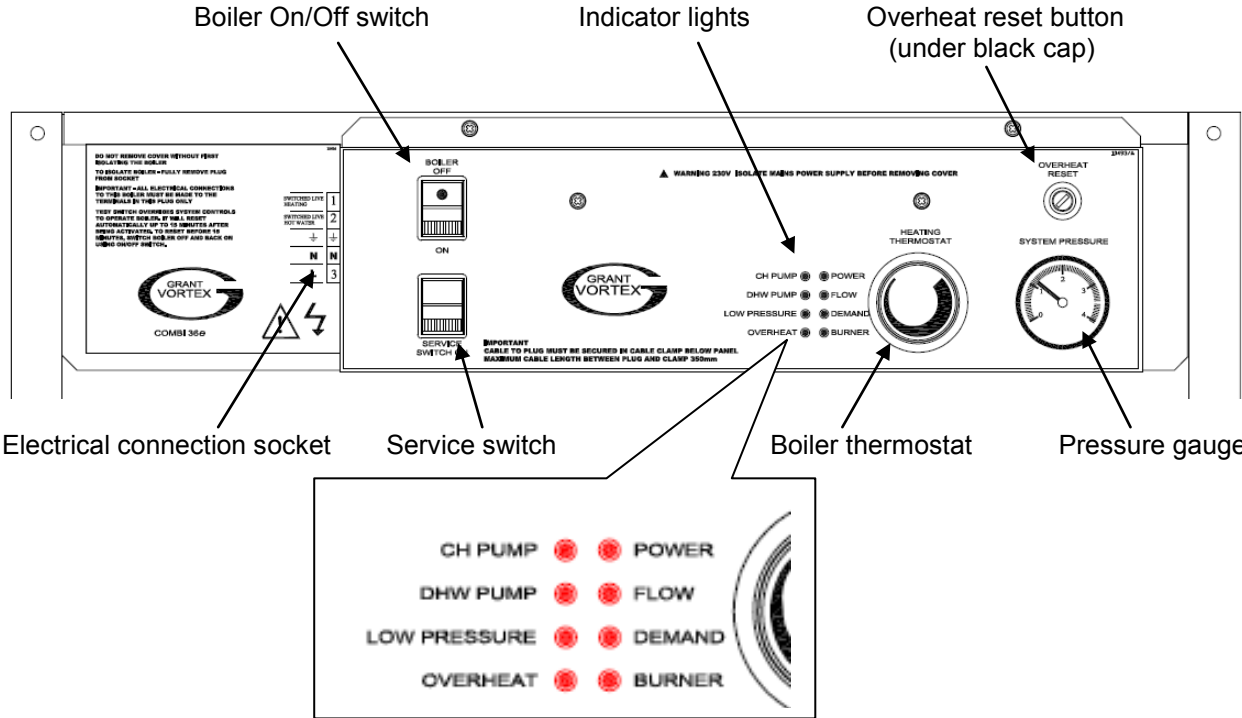

Fig. 1 – Vortex Pro External Combi control panel
1.2 Boiler controls (see Fig. 1)
- 1 **Boiler On/Off switch** – This switches the boiler on and off. The boiler On/Off switch incorporates a 'mains on' neon; see Fig.1, which lights when the boiler is switched on. Please note that the 'mains on' neon does not necessarily indicate that the burner is firing.
1.4 Lighting your boiler (Refer to Fig. 1)
1.5 Turning off your boiler (Refer to Fig. 1)
- 10 Check the heating system water pressure. If it falls below 0.2 bar the boiler low pressure cut-out will be activated, cutting power to the burner, and the red 'LOW PRESSURE' indicator on the control panel (see Fig. 1) will flash. The system must be re-charged to between 0.5 and 1 bar. If the heating system loses pressure on a regular basis then contact your Installer to investigate the cause.
The boiler operates on a sealed heating system. Your installer will have pressurised the system and set the red pointer on the pressure gauge (see Fig. 1) to indicate a system pressure (when cold) of usually between 0.5 and 1.0 bar. **Do not** adjust this pointer.
If the heating system water pressure falls below 0.2 bar the boiler low pressure cut-out will be activated, cutting power to the burner, and the red 'LOW PRESSURE' indicator on the control panel (see Fig. 1) will flash. The system must be re-charged to between 0.5 and 1 bar. If the heating system loses pressure on a regular basis then contact your Installer to investigate and rectify the cause.
- 2 **Pressure switch** – If the heating system water pressure falls below 0.2 bar the boiler pressure cut-out switch will activate and the red 'LOW PRESSURE' indicator on the control panel (see Fig. 1) will flash. The system must be recharged to between 0.5 to 1bar. If the heating system loses pressure on a regular basis then contact your Installer to investigate the cause.
- 4 **Overheat thermostat** –Your boiler is fitted with a safety overheat thermostat which will automatically switch off the boiler in the case of a control malfunction causing overheating. The red 'OVERHEAT' indicator on the control panel (see Fig.1) will flash indicating the overheat thermostat has operated.
If your boiler goes off and you try to light it but nothing happens, and the 'Lock-out' reset button on the burner is not lit, the overheat thermostat has probably operated. The boiler will not light until the thermostat is reset. To reset, unscrew the small plastic cap (see Fig.1), and press the button and the 'OVERHEAT' indicator should go off. Replace the plastic cap.